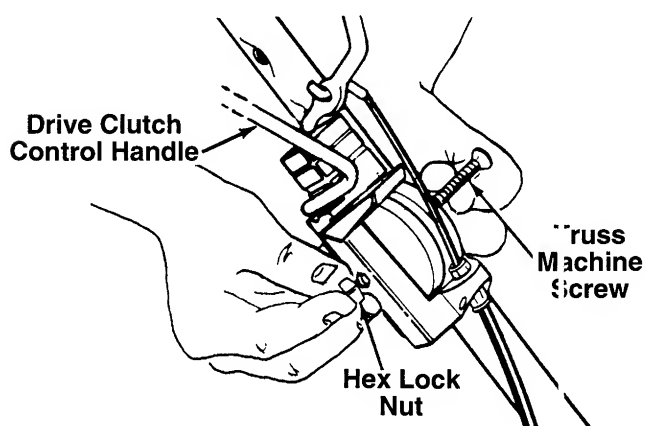

FIGURE 4.
6. Place the control box on the upper handle just below the end of the blade control handle as shown in figure 4. Secure with hardware removed in step one by placing hex lock nut into the indent on the inside of the control box. Screw the truss machine screw into the hex lock nut.
7. Insert long end (left side) of drive clutch control handle into the hole in the control box as shown in figure 4. Insert the short end (right side) into the hole below the blade control handle.